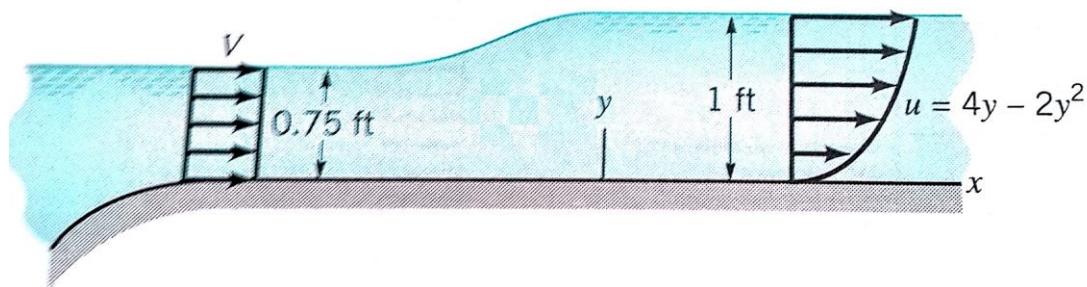

FIGURE P5.21
5.21 As shown in Fig. P5.21, at the entrance to a 3-ft-wide channel the velocity distribution is uniform with a velocity V . Further downstream the velocity profile is given by $u = 4y - 2y^2$, where u is in ft/s and y is in ft. Determine the value of V .